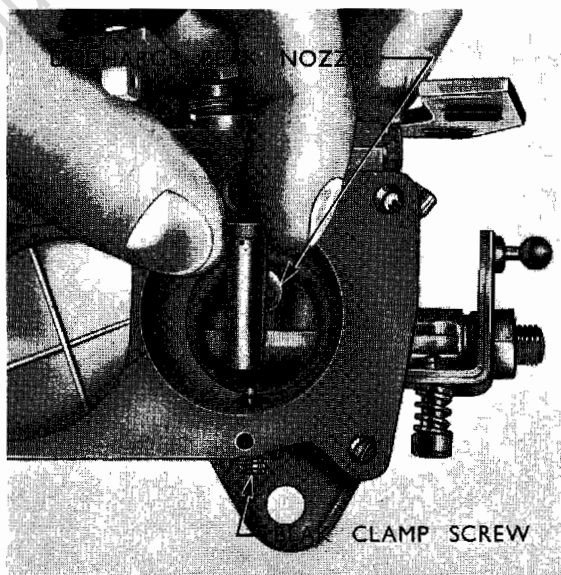

Fig. 11
4. Replace the discharge beak ; secure it with the taper-ended screw (see Fig. 11). which should be locked in position, using a suitable size lead shot (see previously).